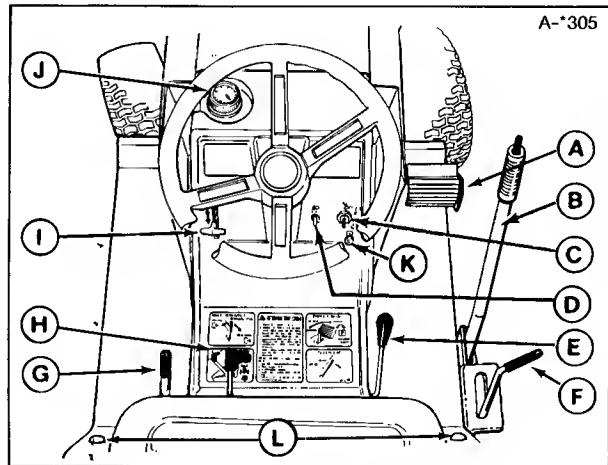

Figure 7. Tractor & Mower Controls
3. Using the mower height control lever (F, figure 7), place the mower in lowest cutting height.